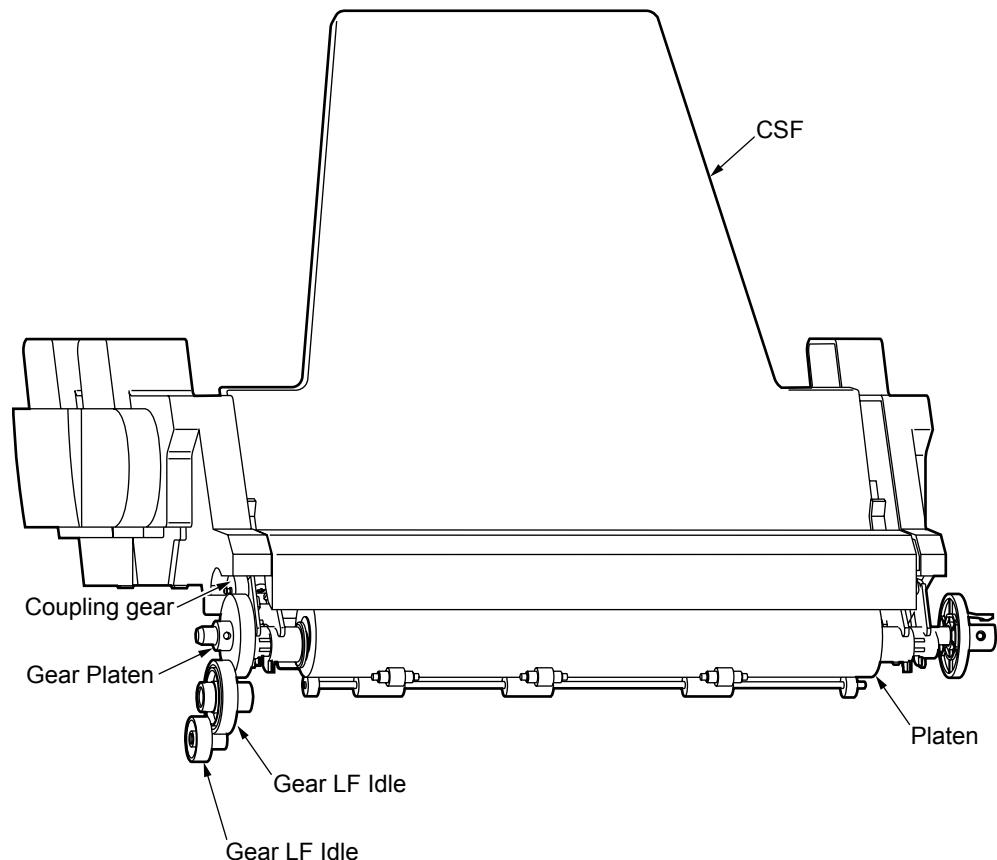

**Figure 2-13**
(7) Push and pull tractor mechanism (Option) (See Figure 2-13)